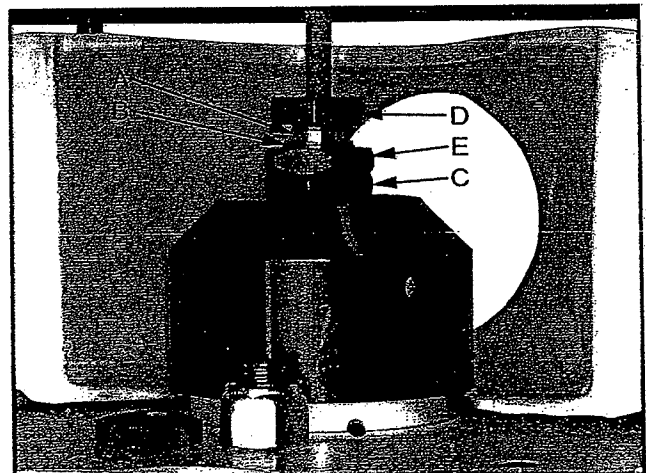

Fig. 3
2. Thread the arbor (A; Fig. 3) into the arbor housing (B, Fig. 3).
3. Use the provided wrenches to hold the lower arbor housing nut (C, Fig. 3) while turning the arbor nut (D, Fig. 3) clockwise.
2. Use the provided wrenches to hold the upper arbor housing nut (E, Fig. 3) while turning the arbor nut (D, Fig. 3) counter-clockwise.